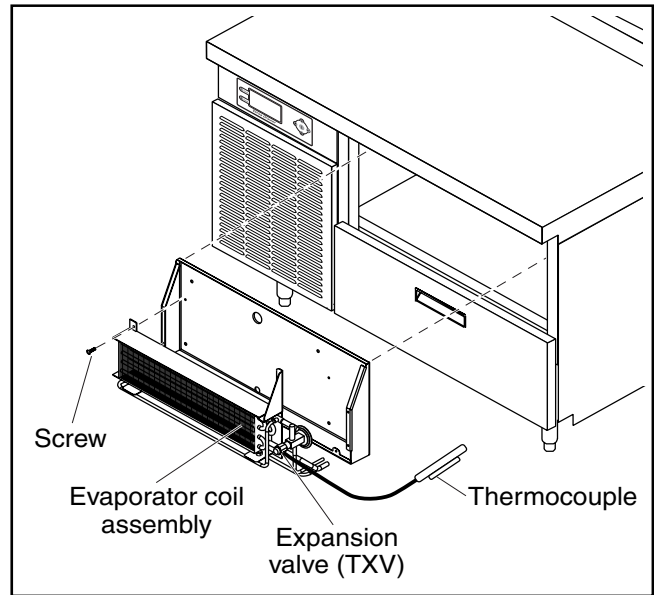

Figure 8. Expansion Valve and Thermocouple
4. Reach inside the drawer box and unsolder the refrigeration lines. Remove the expansion valve and thermocouple from the evaporator housing (Figure 8).